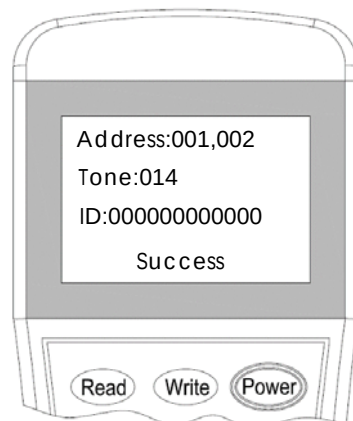

Fig.10 Configuration information
5. Exit the programming tool to the main menu and then press button **"Read"** or **"1"** to view the configuration information of the Addressable Sounder Base, as shown in Figure 10.
Under the main menu, as described in Section 3.2, the configuration parameters of the Addressable Sounder Base can be viewed by clicking the button **“Read”** or **“1”**, as shown in Figure 10.